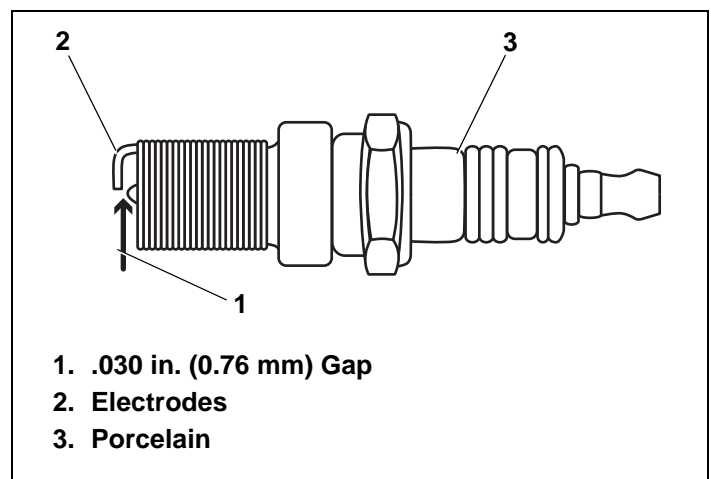

Figure 23. Resistor Spark Plug
4. Check electrode gap with wire feeler gauge and set gap to—.030 in. (0.76 mm) if necessary. See Figure 23.